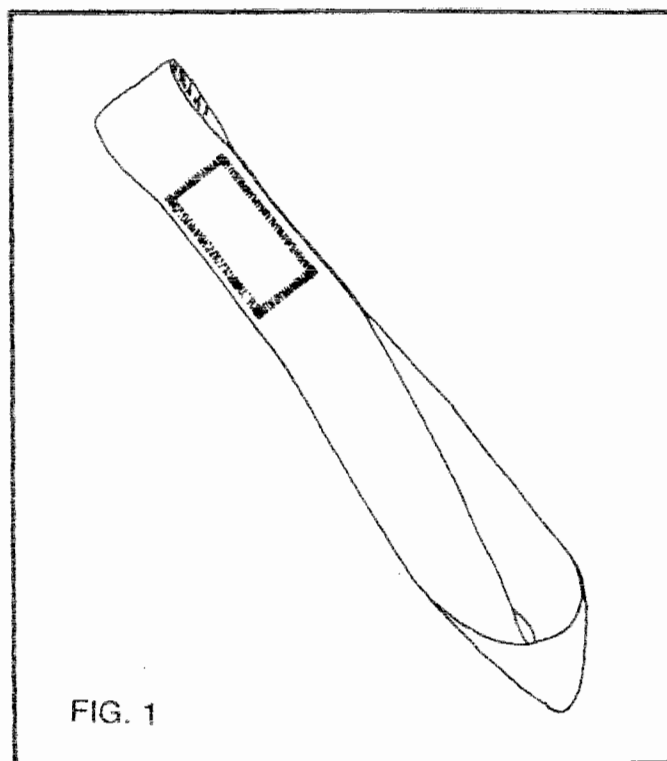

FIG. 1
4) All main ram air canopies are furnished with a bridle attachment point at the center of the upper surface. This consists of either a metal ring or a loop of tape or webbing. For the STUDENT DOLPHIN Altico furnishes a blue colored bridle attachment tab (6-1/2" - 7" long) shown in FIG. 1. Each main canopy which will be assembled with a STUDENT DOLPHIN should be equipped with its own tab. *This is an important part of the versatility of the system.*